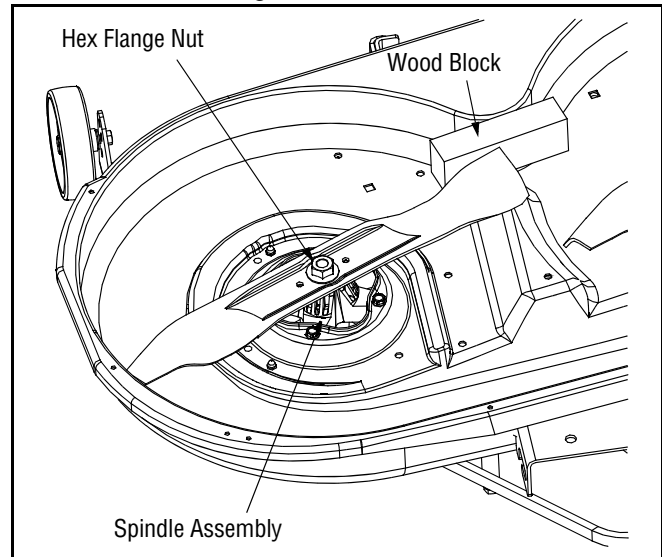

Figure 14
- Place a block of wood between the center deck housing baffle and the cutting blade to act as a stabilizer. See Figure 14.
- Use a 1-1/8" wrench to remove the hex flange nut that secures the blade to the spindle assembly. See Figure 14.